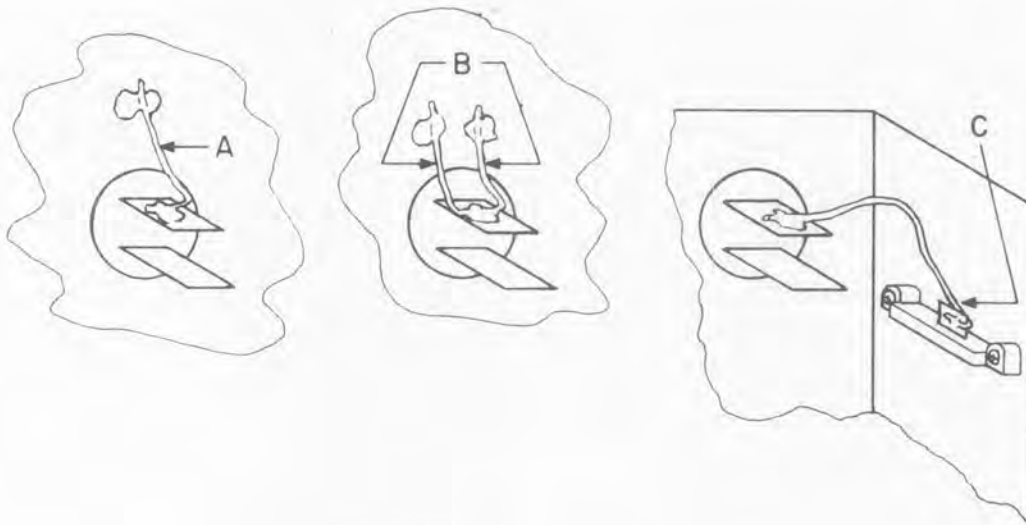

Figure 4-29. Inductor Configurations,
4.7.7.3 Figure 4-29 shows several inductor configurations used in this tuner. Their adjustment procedures are explained here: